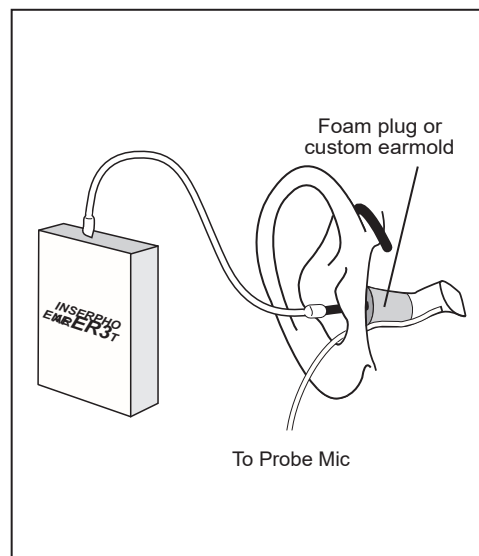

Figure 8.3.5D—Insert foam eartip connected to insert microphone.
3. Insert the foam eartip connected to the insert earphone into the client's ear, or attach the earphone directly to the client's earmold, and insert the earmold into the client's ear. See Figure 8.3.5D.